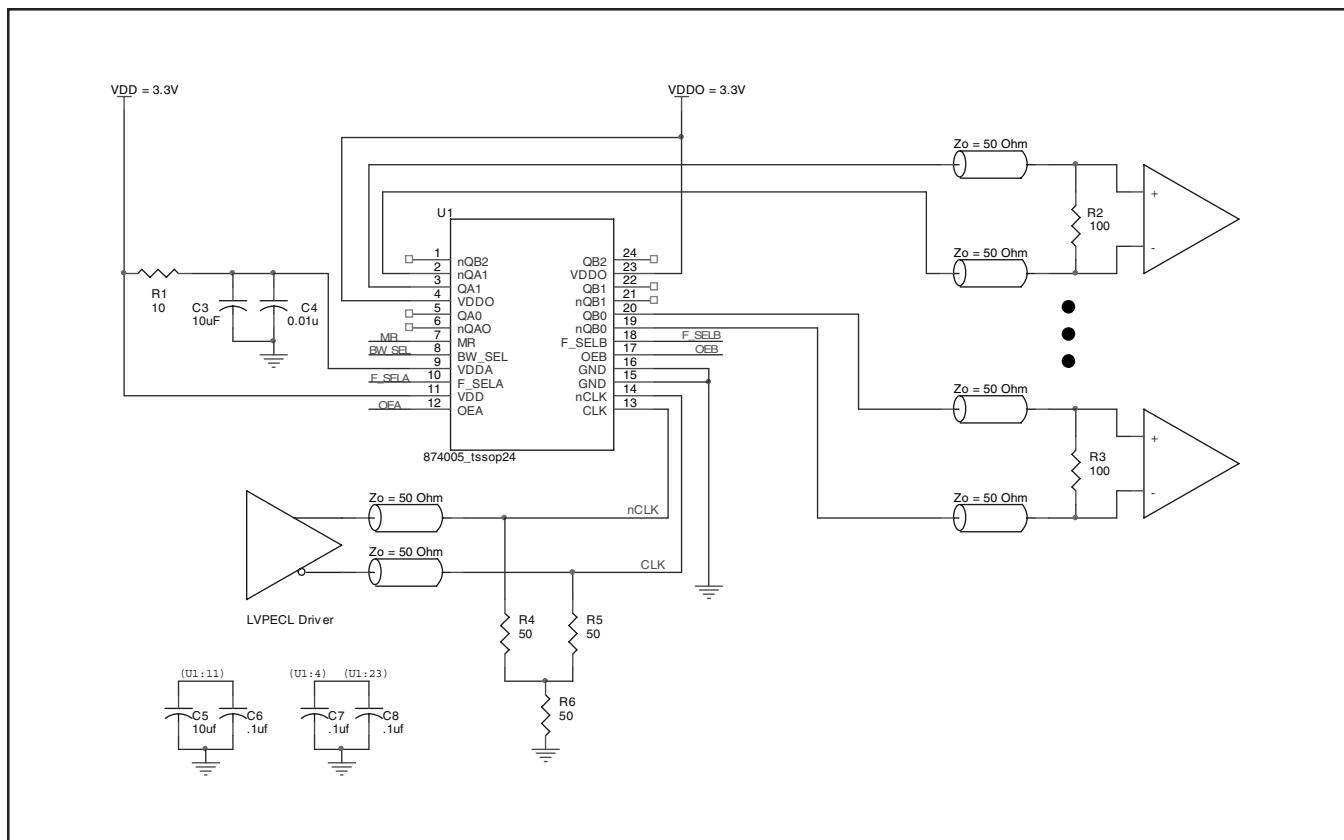

FIGURE 5. ICS874005 SCHEMATIC EXAMPLE
*Figure 5* shows an example of ICS874005 application schematic. In this example, the device is operated at  $V_{DD}=3.3V$ . The